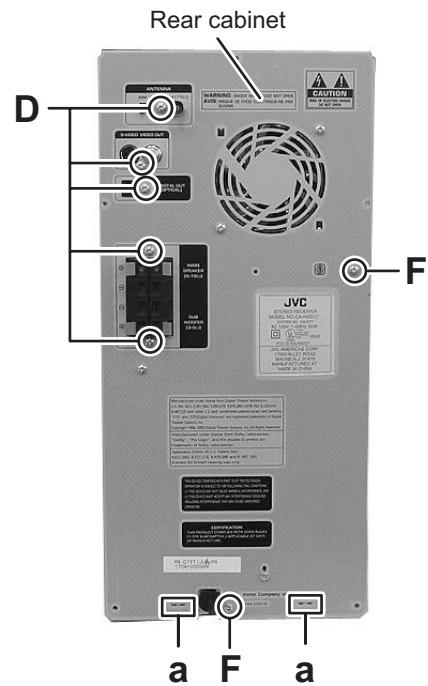

Fig.4
- (4) From the back side of the main body, remove the five screws **D** attaching the AMP board to the rear cabinet. (See Fig.4)
(See Fig.4, 6, 7)
- (1) From the back side of the main body, remove the two screws **F** attaching the rear cabinet. (See Fig.4)
- (3) Remove the two hooks **a** toward this side and remove the rear cabinet. (See Fig.4)